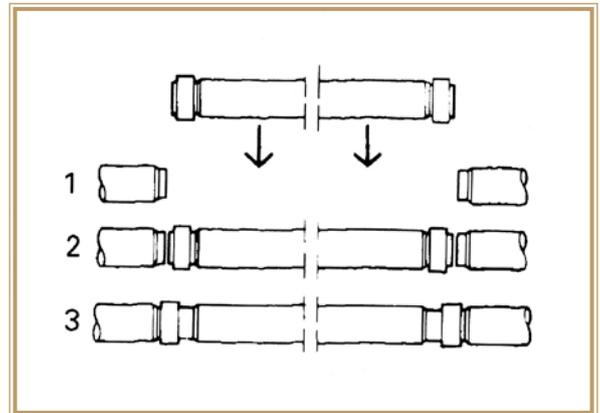

Figure 8.2
6. Place the closure pipe in its final position and pull the coupling over the adjacent pipes up to the home line (Figure 8.2, Steps 2 and 3).